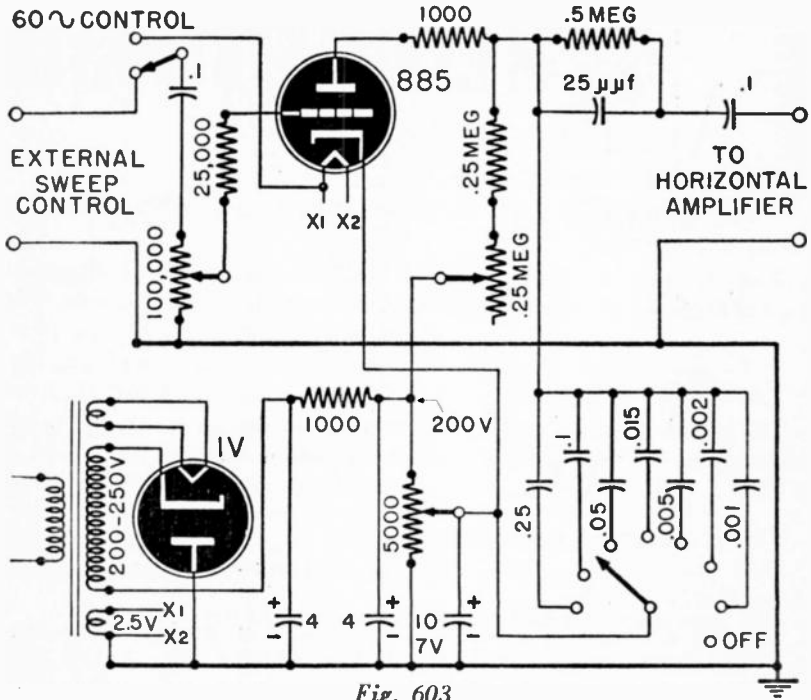

Fig. 603
A. This circuit is given in Fig. 603. A 1-V tube is used as rectifier to provide the high voltage. The several values of condensers are switched in to provide a wide range of frequencies.